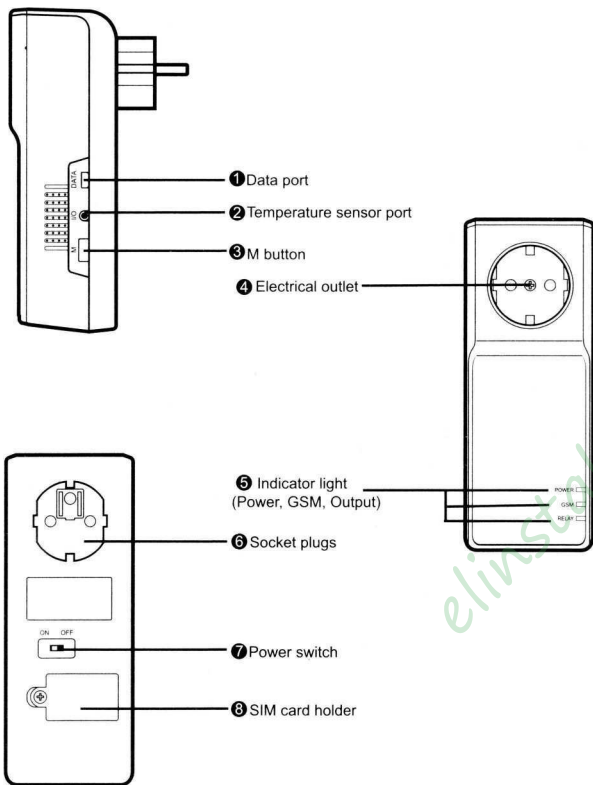

Figure 1: GSM socket instructions
1. The power switch should be in the "OFF" position (See 7 on Figure 1) (please make sure the power socket is off before inserting the SIM Card)
2. Open the socket's SIM cover, you will see a SIM card holder (See 8 on Figure 1)
7. Insert the temperature sensor into the I/O port (see 3 Figure 1)
1. Turn the power switch to "ON" position (see 7 on Figure 1)
Note: The unit can be turned off by the switch (see 7 Figure 1) when not required for a period of time.
Press the M button (See 3 on Figure 1) on the side of the socket for ½ a second until the output light goes on/off and then again to turn the output back on/off